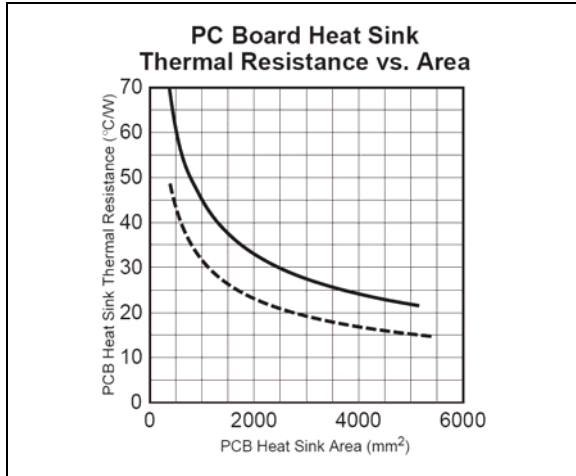

FIGURE 4-4: Excerpt from the LDO Book.
- $R_{\theta_{CA}} = 53^{\circ}C/W$ (as read from Figure 4-4)